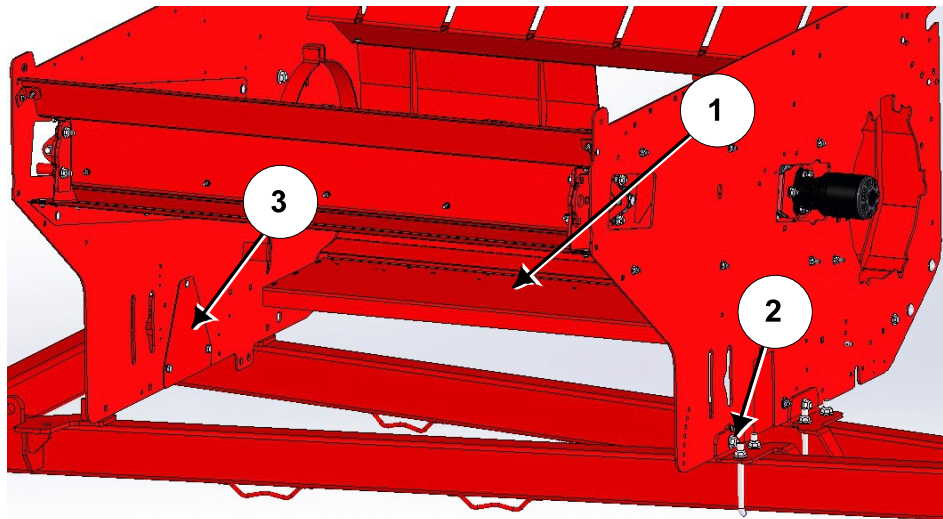

Figure 4: Remove Loft Deflector and Cutout Covers
4. If the BP 661 unit does not have a discharge pan installed (see *Figure 4*):
- a. Remove the loft deflector (1) by removing the fasteners.
- Re-install the fastener (2) that holds the tub wall to the front bracket.
- b. Remove the front and back cutout covers (3) by removing the fasteners.